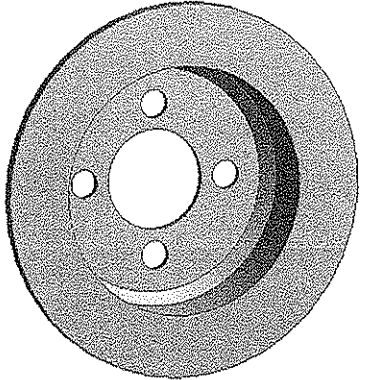

Figure 4-33 Model after the hole feature is patterned
11. Next, choose the **Generate** tool to generate the pattern. The model after creating the pattern feature is shown in Figure 4-33.